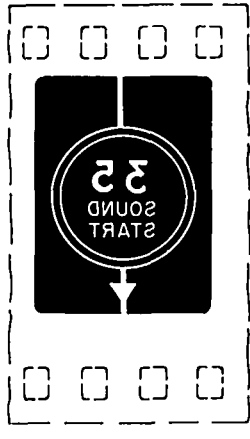

Fig. 3 35-mm Sound Start Identification Frame
- Frame 7—The 35-mm sound start indication, printed in clear letters on a black background as shown in Fig. 3.